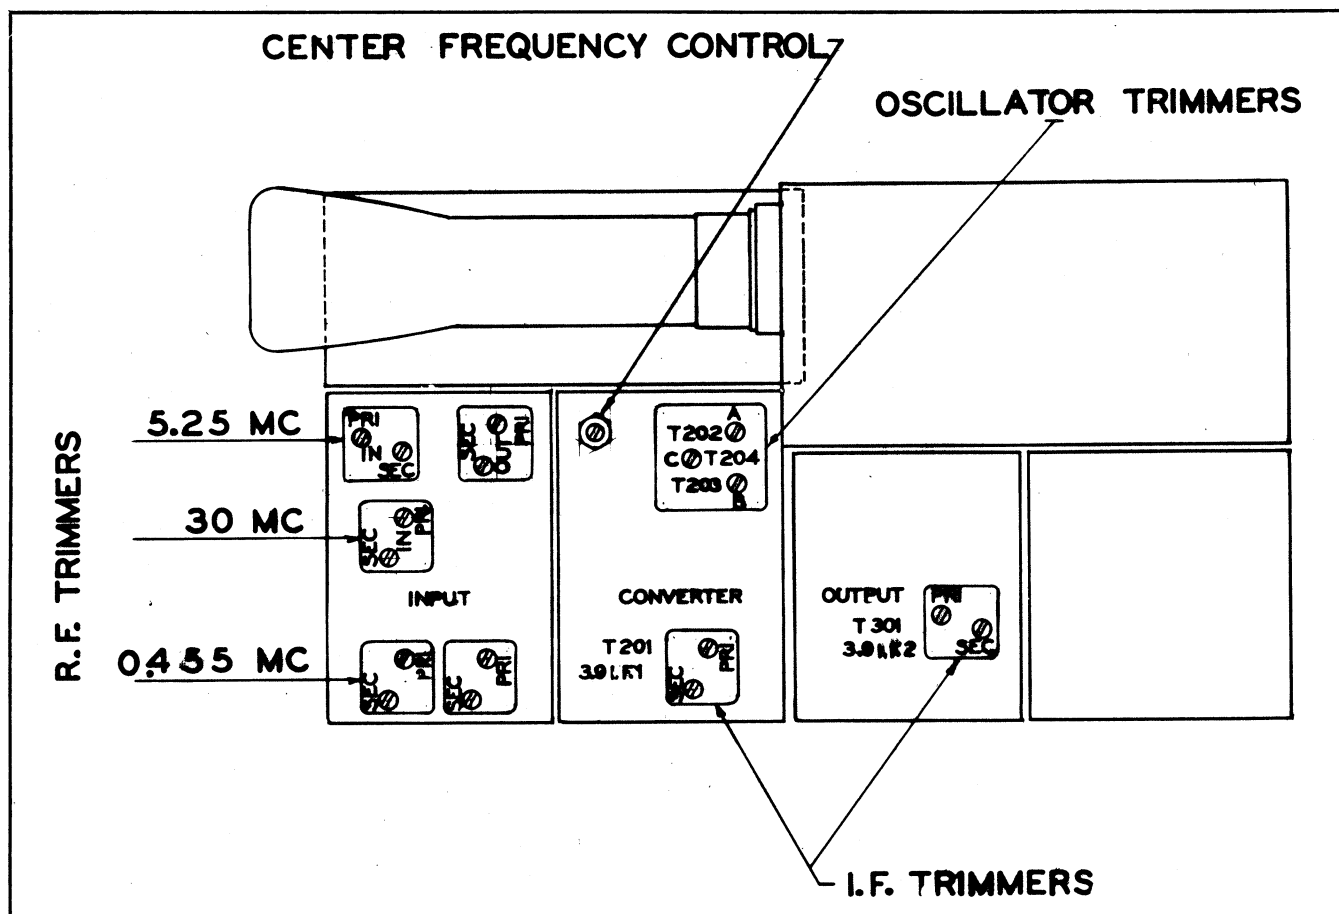

Figure 5-2. Alignment Adjustments
a. GENERAL.—The procedure outlined here should be followed since a hit or miss procedure will result in improper operation. Alignment should not be attempted by other than skilled personnel since proper operation of the equipment is dependent on accurate alignment of the various circuits. (See fig. 5-2.) Twenty trimmer adjustments and three potentiometer adjustments are provided for complete alignment of the equipment. In alignment, a signal generator with a maximum output of 1 volt and covering a frequency range from 455 kilocycles to 31 megacycles with provision for 400-cycle modulation is needed.
- (1) Set "SWEEP WIDTH" control to minimum.
- (2) Set "CHANNEL SELECTOR" switch to B.
- (3) Feed a 3.9-megacycle modulated signal into the grid of the converter tube on chassis 2. (Apply this signal to jack pin No. 2 on this chassis.)